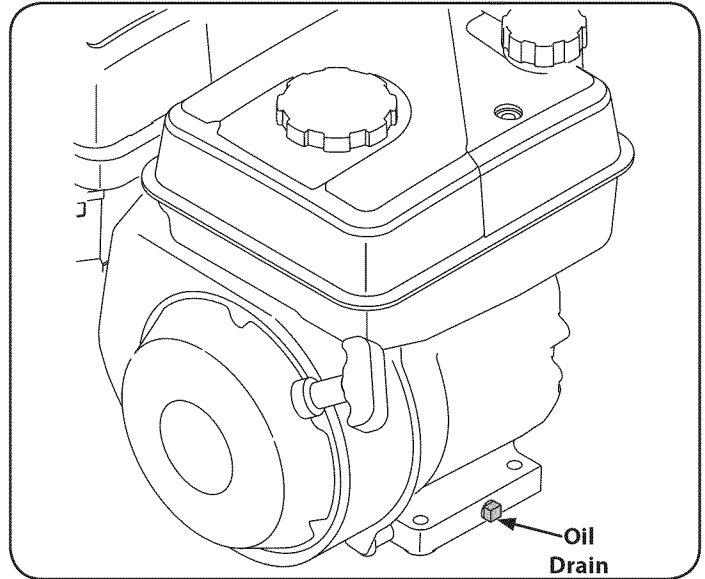

Figure 25
3. Remove oil drain end cap located at the base of the engine, and drain oil into an appropriate receptacle. See Figure 25.